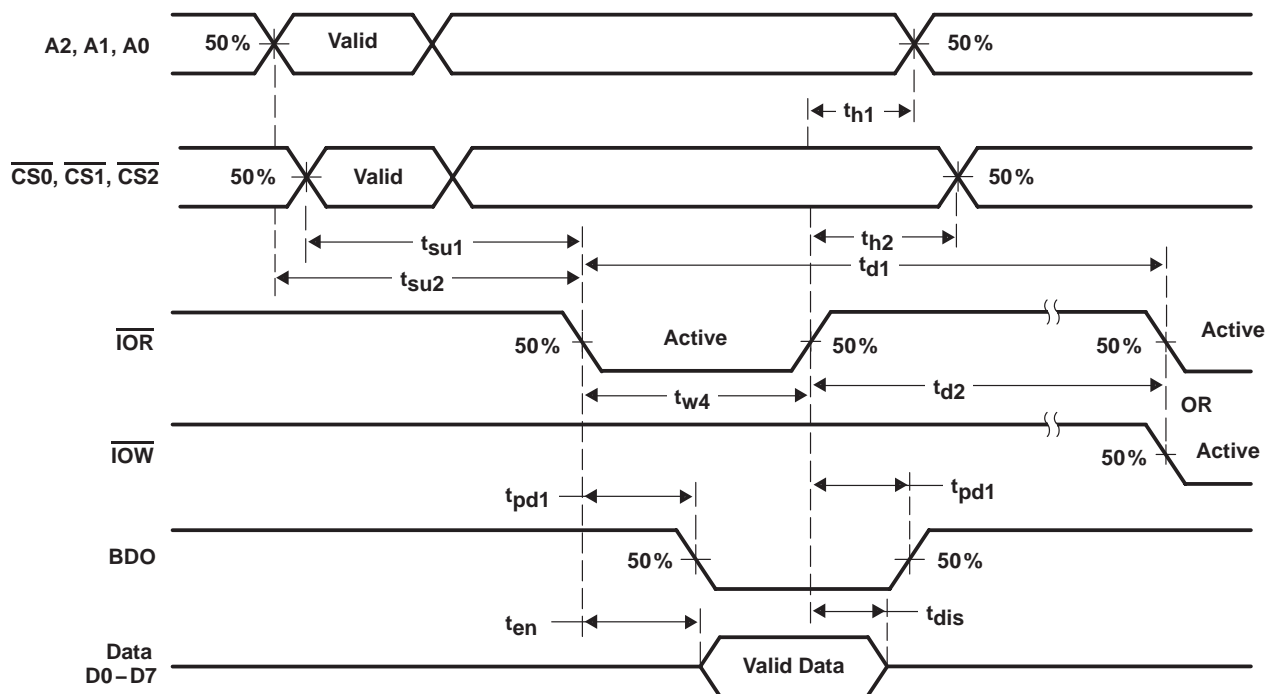

Figure 4. Read Cycle Timing Waveforms
### read cycle timing requirements over recommended ranges of operating free-air temperature and supply voltage (see Figure 4)
**read cycle switching characteristics over recommended ranges of operating free-air temperature and supply voltage (see Figure 4)**